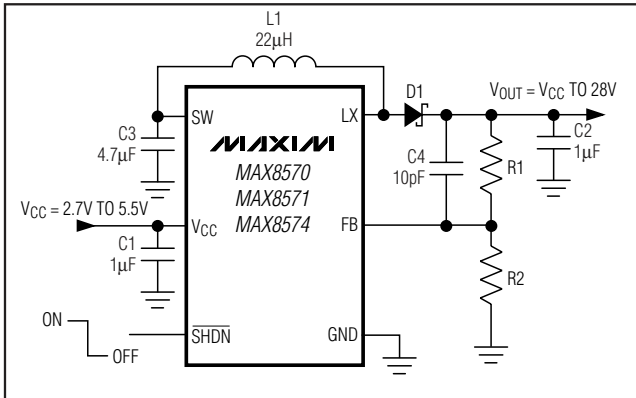
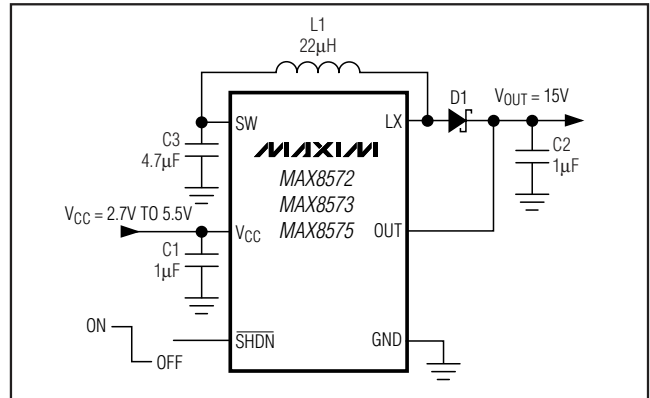

Figure 2. Typical Application Circuit with Adjustable Output Voltage
Figure 3. Typical Application Circuit with 15V Preset Output Voltage
(MAX8571,  $V_{CC} = 3.6V$ ,  $V_{OUT} = 18V$ , Circuit of Figure 2,  $T_A = +25^{\circ}C$ , unless otherwise noted.)
(MAX8571,  $V_{CC} = 3.6V$ ,  $V_{OUT} = 18V$ , Circuit of Figure 2,  $T_A = +25^\circ C$ , unless otherwise noted.)
**LINE TRANSIENT 3V TO 5.5V (FIGURE 3, MAX8573)**
The output voltage of the MAX8570, MAX8571, and MAX8574 is adjustable from VCC to 28V by using a resistor voltage-divider (see Figure 2). Select R2 from 10k $\Omega$  to 600k $\Omega$  and calculate R1 with the following equation:
The MAX8572, MAX8573, and MAX8575 have a fixed 15V output. When using these parts, connect OUT directly to the output (see Figure 3).
The MAX8570 family uses two soft-start mechanisms. When the true-shutdown feature is used (SW is connected as in Figure 2 and Figure 3), the gate of the internal high-side p-channel switch turns on slowly to prevent inrush current. This takes approximately 200 $\mu$ s. When SW is fully turned on, the internal n-channel switch begins boosting the input to set the output voltage. When VFB is less than 0.5V (with or without the use of True Shutdown), the minimum off-time of the internal n-channel switch increases from 1 $\mu$ s to 5 $\mu$ s to control inrush current.
For the MAX8570/MAX8571/MAX8574 a feed-forward capacitor (C4 in Figures 2 and 4) connected from the output to FB improves stability over a wide range of battery voltages. A 10pF capacitor is recommended for the MAX8571 and MAX8574. A 10pF to 47pF capacitor is recommended for the MAX8570. Note that increasing C4 degrades line and load regulation.